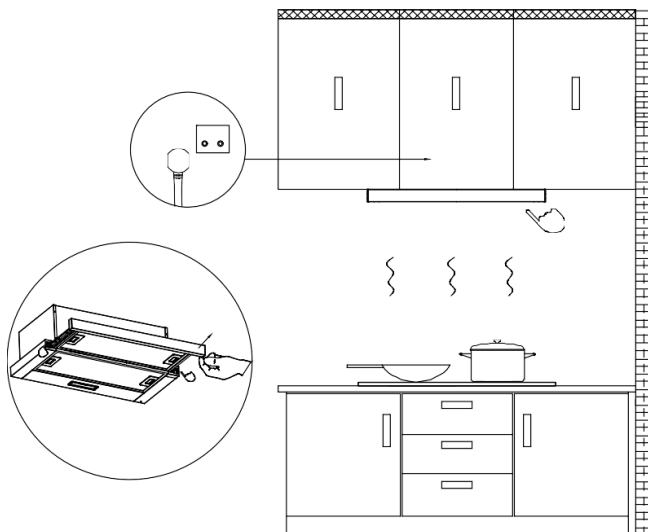

Fig. 16
- 5) Connect the power and pull out the slide. Then turn the LED lights on/off to test whether the functions are working properly. (see Fig. 16)